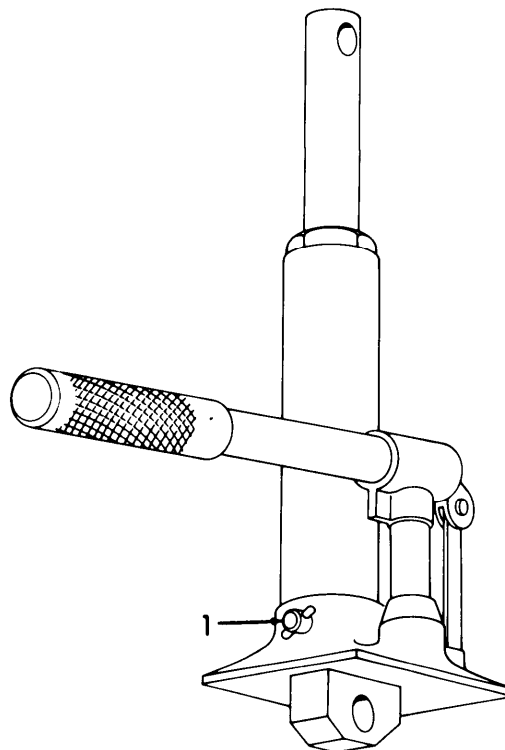

Figure 3-16. Hydraulic Jack, Servicing.
- (1) Inspect jack for signs of wear and damage.
- (2) Inspect jack for cracks, dents, and bent or broken flanges.
- (3) Inspect jack for signs of corrosion.
- (4) Inspect for missing or damaged hardware.
d. Service. (Refer to Figure 3-16).
- (1) Remove plug (1).
- (2) Fill with hydraulic fluid MIL-H-5606.
- (3) Reinstall plug (1).